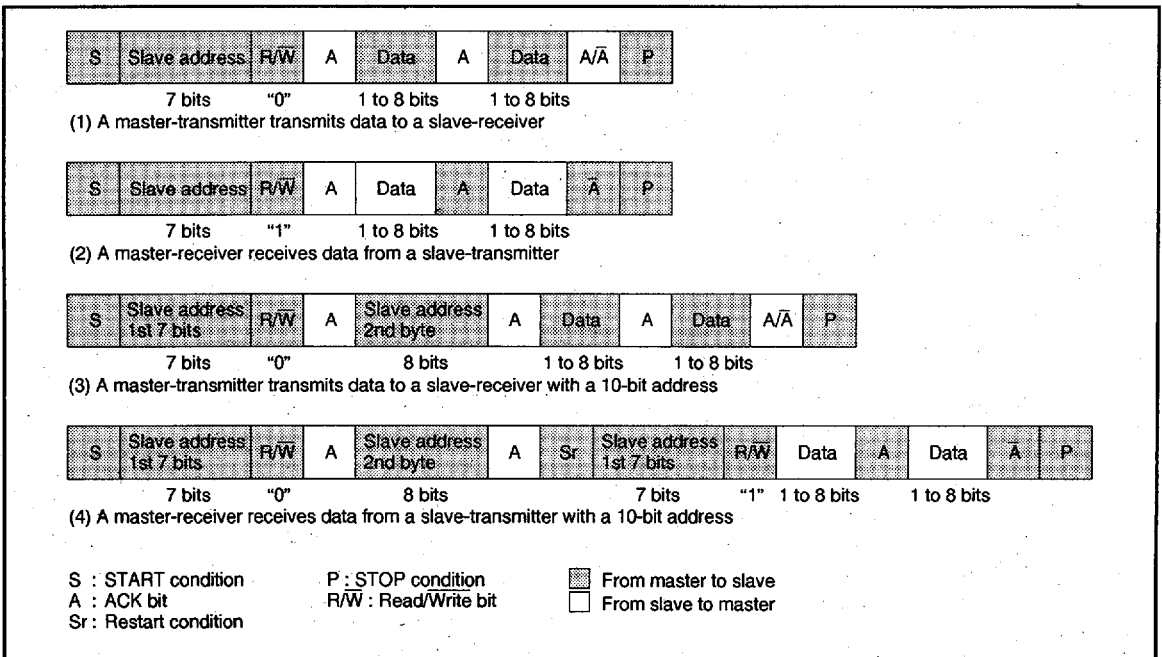

Fig. 43 Address data communication format
To meet the 7-bit addressing format, set the 10BIT SAD bit of the I2C control register (address 00F916) to "0." The first 7-bit address data transmitted from the master is compared with the high-order 7-bit slave address stored in the I2C address register (address 00F716). At the time of this comparison, address comparison of the RBW bit of the I2C address register (address 00F716) is not made. For the data transmission format when the 7-bit addressing format is selected, refer to Figure 43, (1) and (2).
When the first-byte address data matches the slave address, the AAS bit of the I2C status register (address 00F816) is set to "1." After the second-byte address data is stored into the I2C data shift register (address 00F616), make an address comparison between the second-byte data and the slave address by software. When the address data of the 2 bytes matches the slave address, set the RBW bit of the I2C address register (address 00F716) to "1" by software. This processing can match the 7-bit slave address and R/W data, which are received after a RESTART condition is detected, with the value of the I2C address register (address 00F716). For the data transmission format when the 10-bit addressing format is selected, refer to Figure 43, (3) and (4).